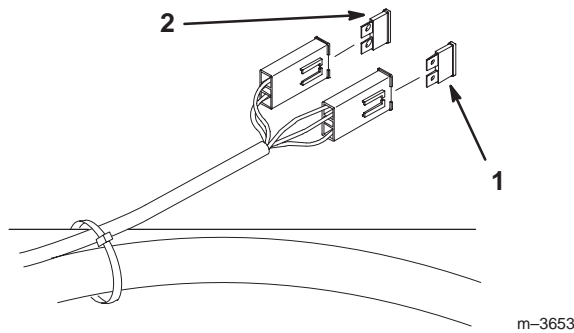

Figure 59
1. Raise the seat to gain access to fuse holder (Fig. 59).
2. To replace fuses pull out on the fuse to remove it (Fig. 59).